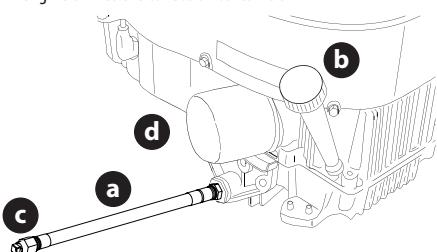

Figure 30
3. While holding the free end of the oil drain hose over the oil collection container, unscrew the square head hose plug (c) from the end of the oil drain hose (Figure 30). Drain the engine oil into the collection container.
1. Locate the oil drain hose (a) on the side of the engine (Figure 30).
2. Place an appropriate oil collection container with at least a 2.5 quart (2.37 liter) capacity below the opening of the oil drain hose, to collect the used oil. Remove the oil fill cap/dipstick (b) from the oil fill tube (Figure 30).